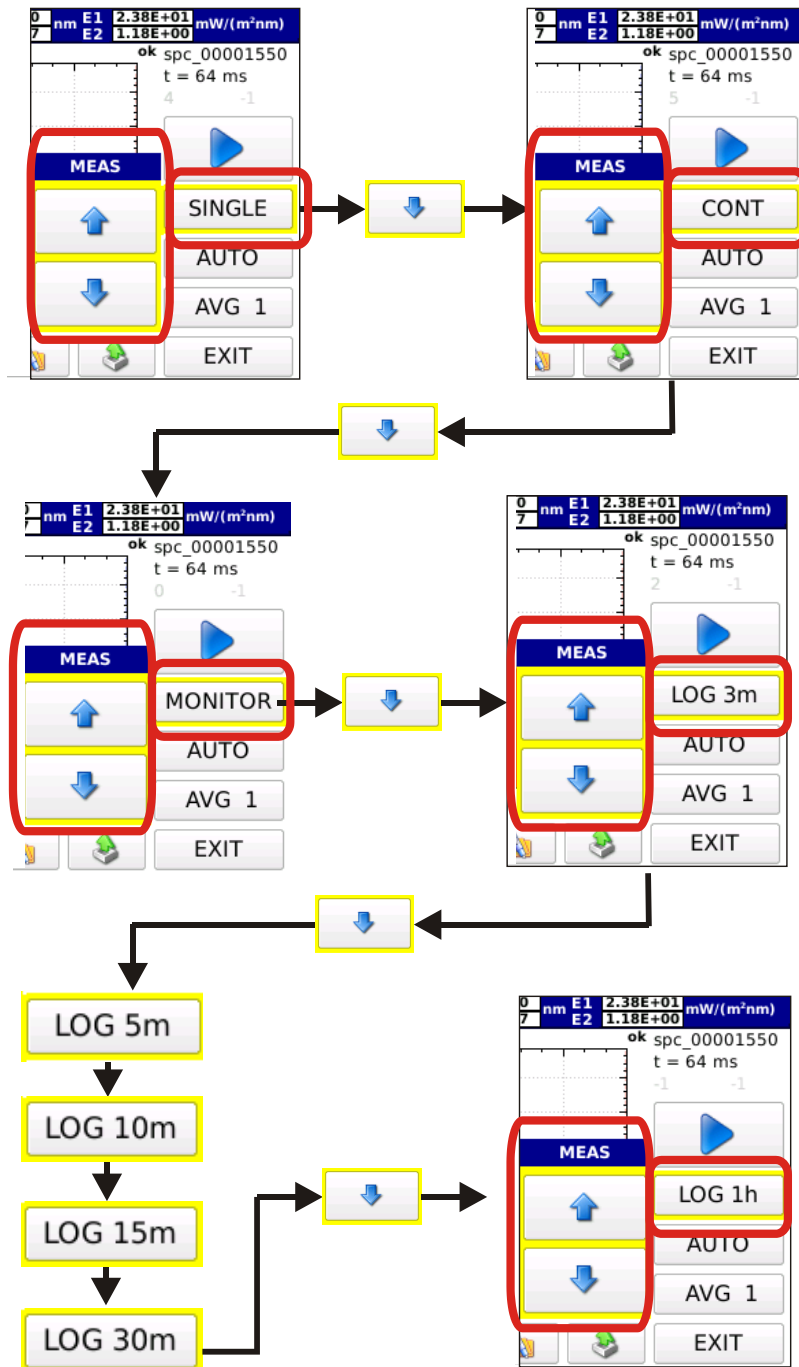

Figure 3.11: Select the operating mode using the arrow keys. Selection arrow keys disappear when pressing any other key.
3.2.1 Select the operating mode of the instrument among the four available modes (SINGLE, CONTINUE, MONITOR, LOGGING). By pressing **SINGLE** the two scroll arrow cursors are displayed, pressing makes the operating mode change as shown on figure 3.11.